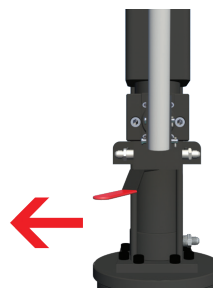

Figure 25
4.1.17) Switch the actuator to the left (see Figure 25).